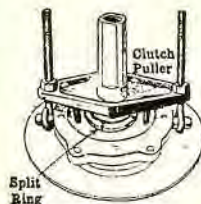

Fig. 41
To tighten the clutch spring: Compress it enough to allow the split washer (Fig. 41), which fits into one of three grooves cut on the clutch shaft, to be moved forward to the next groove. The two halves of this washer must fit securely into the groove so that the clutch-spring rear retainer fits snugly around it.
(1) Remove the two lockscrews in the clutch throw-out yoke (visible from the clutch hand-hole); (2) remove the two nuts on the clutch throw-out yoke; (3) remove the clutch pedal (38) from its shaft and loosen the brake pedal (39); (4) drive out the clutch shaft (32) to the left; (5) lift out the clutch unit; (6) apply the clutch puller (Fig. 41) to the complete clutch disassembly; the puller consists of a cross-member with a bolt terminating in a hook perpendicularly placed at each extremity; the hooks engage pins on the clutch; (7) draw down on the puller nuts until the clutch spring is sufficiently compressed so that the split locking ring may be withdrawn; (8) remove the split locking ring; (9) ease up on the puller nuts, and then remove the clutch spring; (10) clutch plates may now be taken apart.